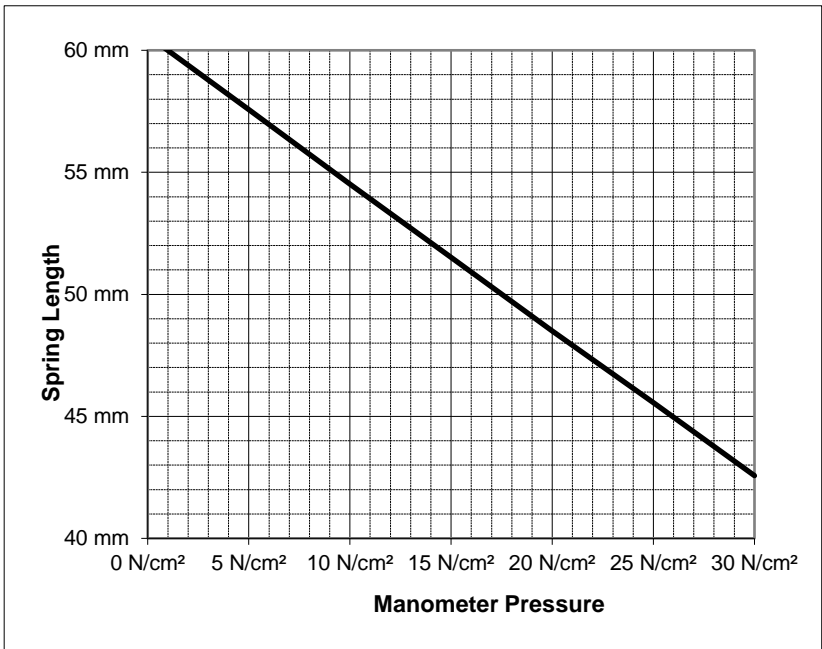

Figure 6.4.3
8. Utilizing the provided calibration certificate, plot recorded spring length measurements vs. pressure. The resulting curve should be linear and decreasing. An example of a successful calibration curve is shown in Figure 6.4.3.